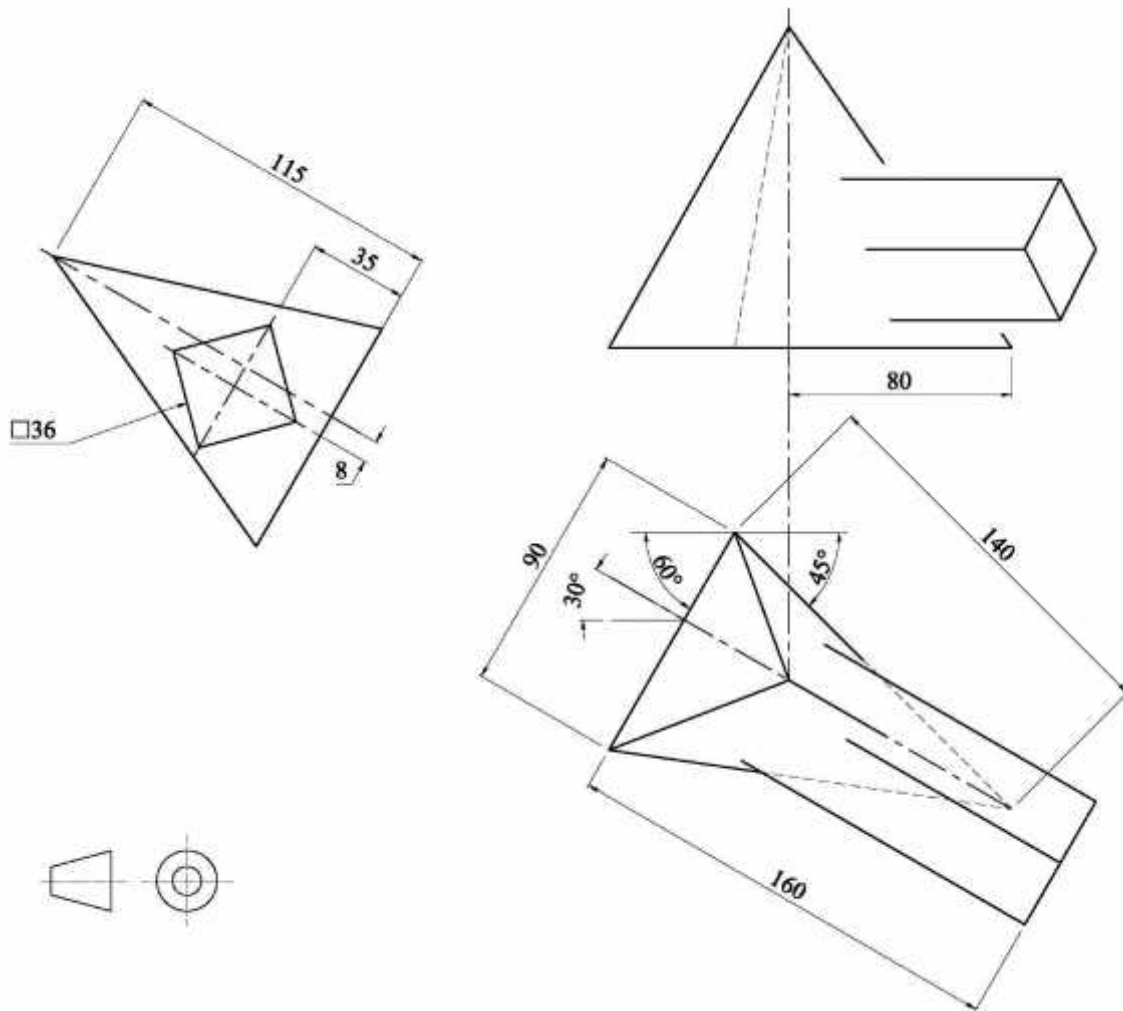

FIG. 4
- a) Copy, full size the views shown in Figure 4.